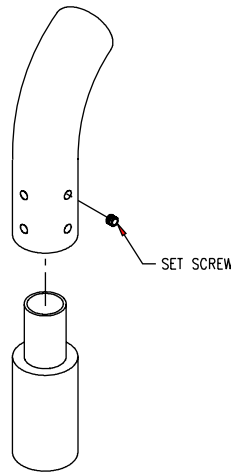

FIGURE 4
1. Slip bracket over tenon on pole top. Position bracket square with court edge and tighten (8) set screws on bracket. See Figure 4.